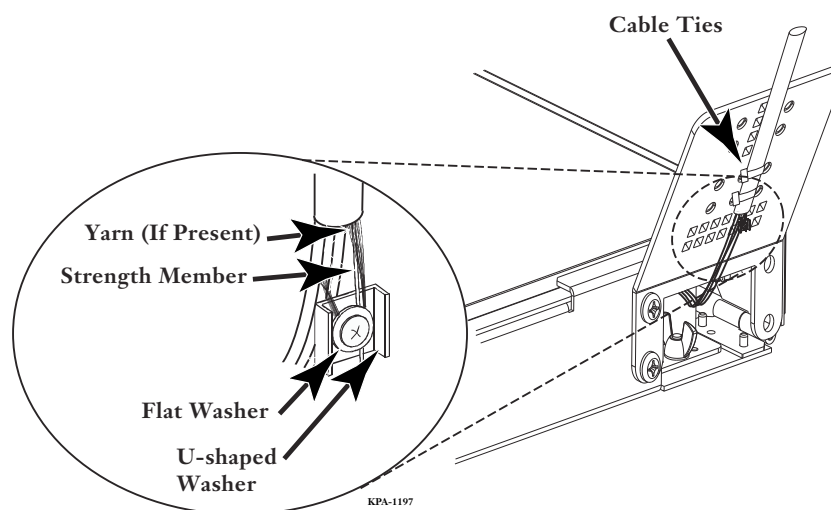

Figure 6 — Strain-relieve Strength Member
Step 1: Attach the cable to the strain-relief bracket with cable ties in two places as shown in Figure 6.
- Step 1:** Install the U-shaped washer and the flat washer on the strain-relief bracket using the supplied Phillips-head machine screw (Figure 6).